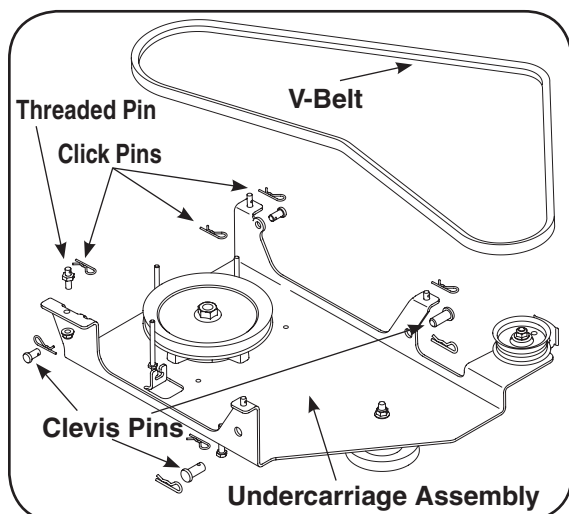

Figure 10b
1. Remove the v-belt (754-0371A), this belt will be replaced later with another v-belt (754-0498) included in this carton. Also, remove all of the Clevis Pins and Click pins as seen in Figure 10b.
2. There should already be a threaded pin installed in one of the mounting holes of the undercarriage assembly. If not installed, install it now as in Figure 10b.